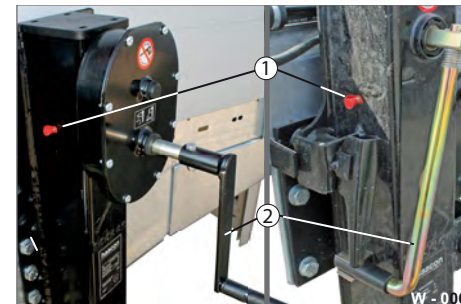

Fig. 6 Geared support winch / swivel support
- ▶ Extend the foot of the support winch fully using the crank (Fig. 6/2).
- ▶ Removal the cap from the lubrication nipple (Fig. 6/1).